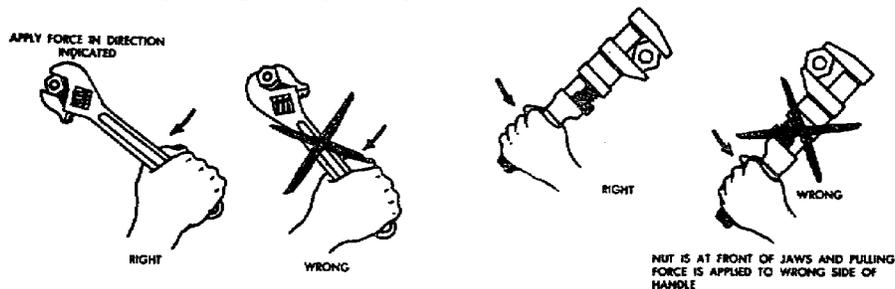

Figure 15. Using adjustable wrenches.
(e) Adjustable open end wrench. Always place the wrench on a nut or bolt so that the force used to turn it is applied to the stationary jaw side of the wrench (fig 15). After placing the wrench in position, tighten the knurled adjusting nut until the wrench fits the nut or bolthead as tightly as possible. If it does not fit tightly, it will slip, which may result in an injury to your hand and may also round the corners of the nut or bolthead.
**Note.** - Always place the wrench on a nut or bolt so that the turning force is applied to the back of the handle; that is, the side of the wrench opposite the jaw opening (fig 15).